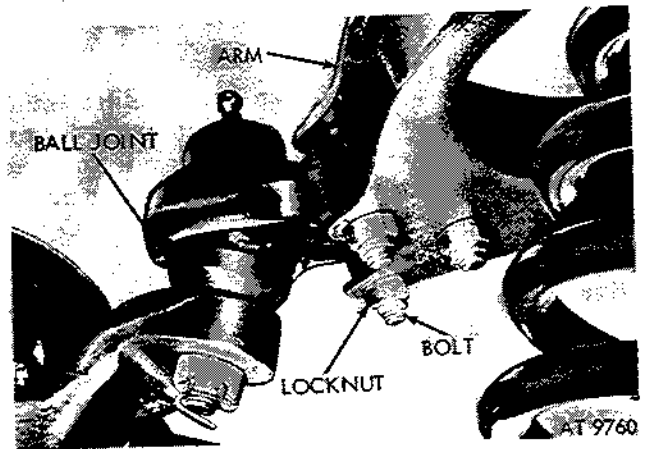

Figure 2-338. Remove upper arm from upper ball joint.
(4) Remove three nuts and bolts securing upper arm to upper ball joint (fig. 2-338).